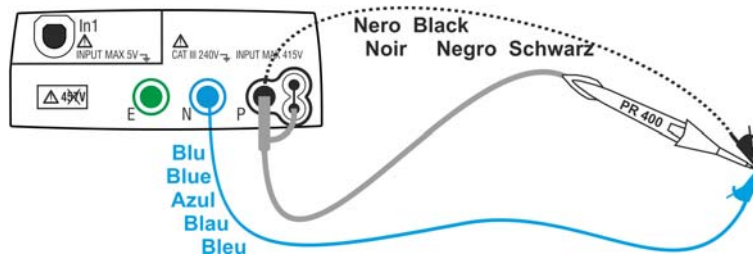

Fig. 7: Calibration of single cables and remote probe
- Short the leads of the measurement cables as in Fig. 7 making sure that the conductive parts of alligator clips are well in contact.